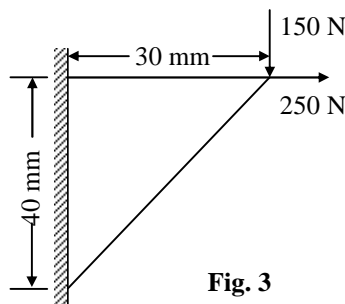

Fig. 3
- b) For the configuration shown in **Fig.3**, determine the deflection at the point of load application using one element model. The 'B' matrix relating strain-model displacement and the 'D' matrix relating stress-strain are given below. Thickness = 10 mm, $E = 70 \text{ GPa}$, $\mu = 0.3$